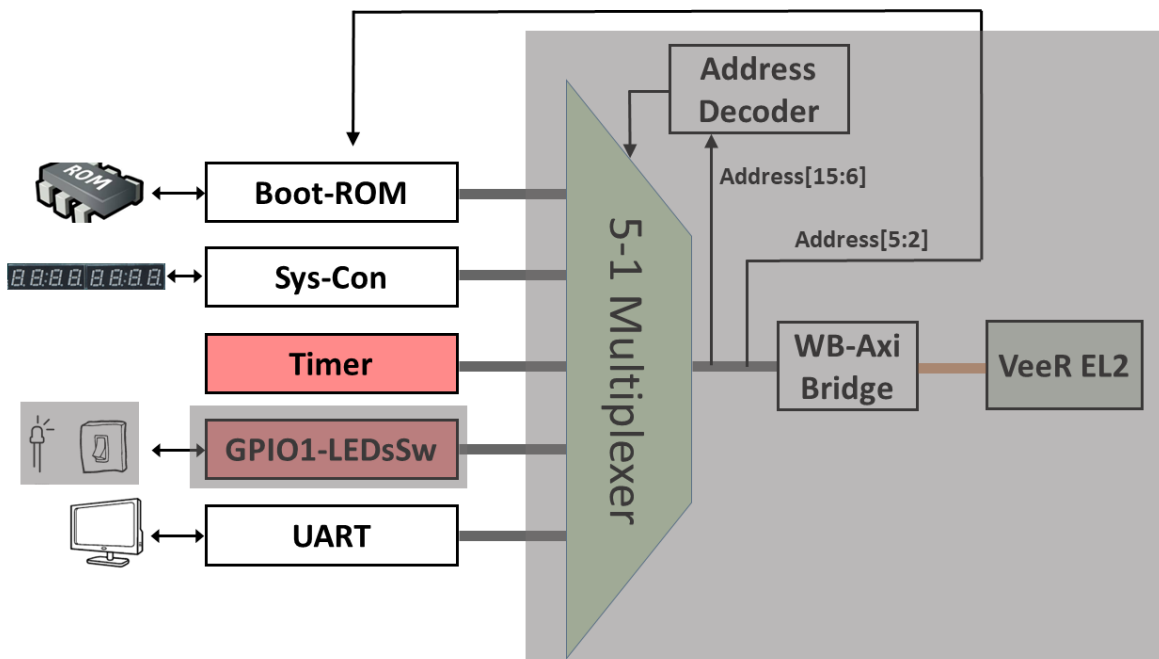

Figure 4. GPIO analysis in 3 phases
Now that you have had some experience with accessing the GPIO pins using memory-mapped I/O, let's dive into the low-level details of the GPIO. The GPIO can be divided into three main parts, as shown in Figure 4: (1) RVfpgaEL2-Boolean' external connection to the on-board LEDs/Switches (left shaded region in Figure 4); (2) Integration of the GPIO module into the VeeRwolf SoC (middle shaded region in Figure 4); (3) Connection between the GPIO and the VeeR EL2 Core (right shaded region in Figure 4).